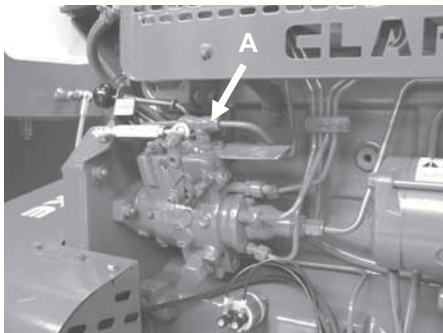

Fig. 53 Venting of fuel system through the diesel injection pump, JU4H and JU6H
1. Loosen the connector (fig. 53, pos. A) of the fuel backflow pipe.